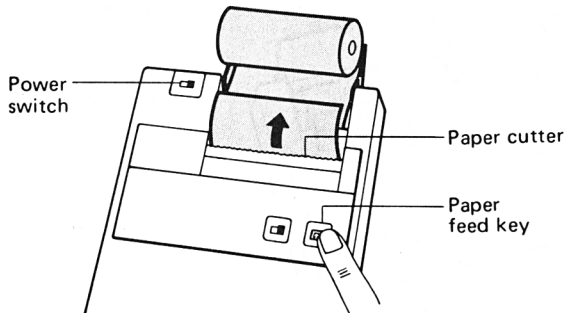

Fig. 4
- (4) Turn on the power switch and press the paper feed key until the leading edge of the paper comes out of the printer mechanism. (Fig. 4)